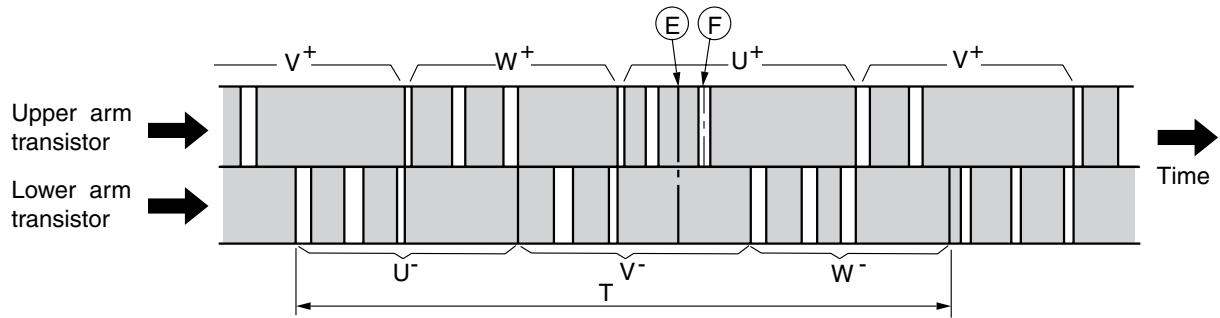

Fig. 3-2 Switching order of power module
- DC 300-330V is input to power module and power module switches power supply current according to rotation position of magnet rotor. The switching order is as shown in Fig. 3-2.
- Time T in Fig. 3-2 shows the switching period, and relation with rotation speed (N) of the compressor is shown by formula below;